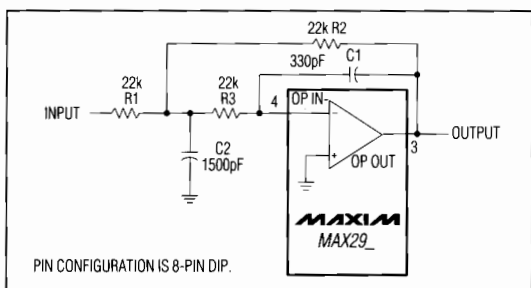

Figure 4. Uncommitted Op Amp Configured as a 2nd-Order Butterworth Lowpass Filter ($F_o = 10\text{kHz}$)
The uncommitted op amp has its noninverting input connected to the GND pin, and can be used to build a 1st- or 2nd-order continuous-time lowpass filter. This filter is intended for anti-aliasing applications preceding the switched-capacitor filter, but it can be used as a post-filter to reduce clock noise. Figure 4 shows one of many filters that can be built with this op amp: a 2nd-order Butterworth filter with a 10kHz corner frequency and an input impedance greater than 22k Ω . Table 1 gives alternative component values for different corner frequencies of the same Butterworth filter.
Table 1. Component Values for Figure 4's Filter
As the passband ripple of the MAX293/MAX294/MAX297 elliptic filters is of the order of ± 0.1 dB, it is normally appropriate to keep the passband errors of any anti-aliasing filter at or below this level. This is achieved by choosing the corner frequency of Figure 4's Butterworth filter (f_{cB}) to be higher than the corner frequency of the elliptic switched-capacitor filter (f_{cE}) by a factor of 2.5 or more. A factor of 5 or more is recommended to avoid problems with component tolerances, i.e. $f_{cB} > (5)(f_{cE})$.